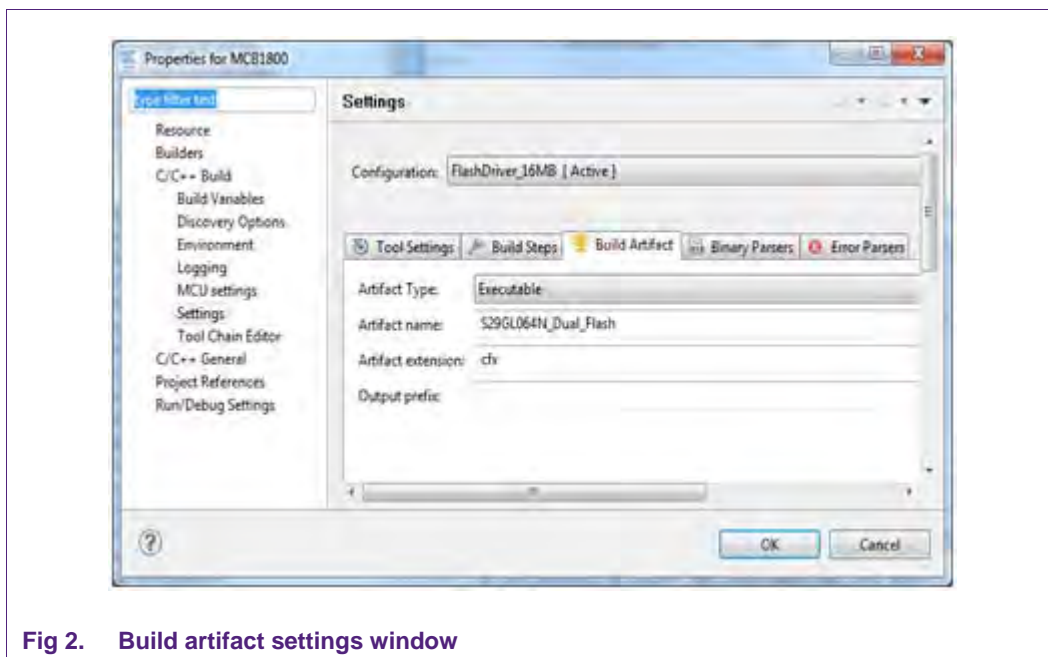

Fig 2. Build artifact settings window
- Go to project properties->C/C++ Build->Settings and select the Build artifact tab (Shown in Fig 2).